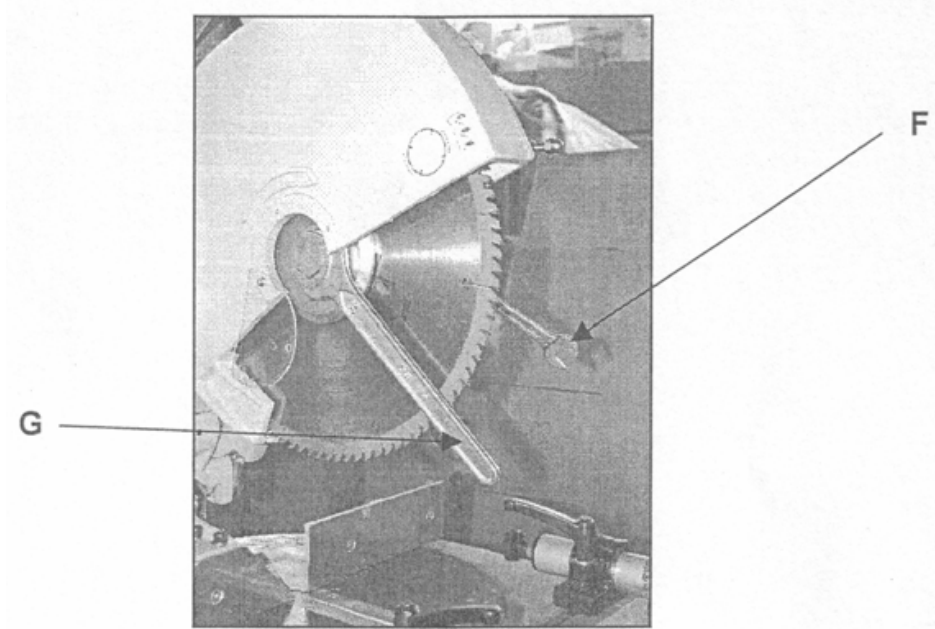

Fig. 13
- Using a 36mm spanner, loosen the blade counter plate screw in a clockwise direction (Fig. 13 part. G). Keeping in place the contrast spanner (Fig. 13 part. F) release the screw and remove the counter plate to be able to remove the blade from the shaft.